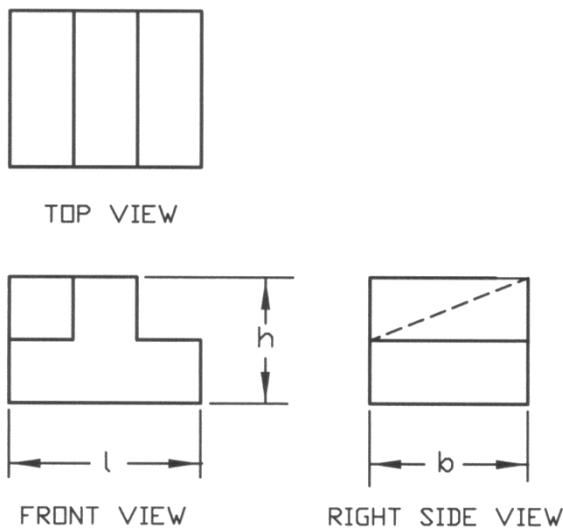
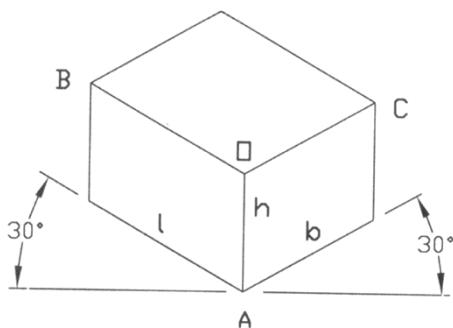

Figure 6.11: Orthogonal Projection
Figure 6.12: Isometric Parallellepiped Side
A simplified procedure is provided below to draw an isometric view from the orthographic projection. In Figure 6.11, the orthographic projection of an object is given from where an isometric view will be drawn. The steps mentioned below are to be followed to make the isometric view.
- (1) An isometric parallelepiped is drawn (Figure 6.12) in such a way that the length (l), breadth (b) and height (h) of the parallelepiped are respectively equal to those of the orthographic projection (Figure 6.11). The lines will be very thin so that they can be erased easily when required.